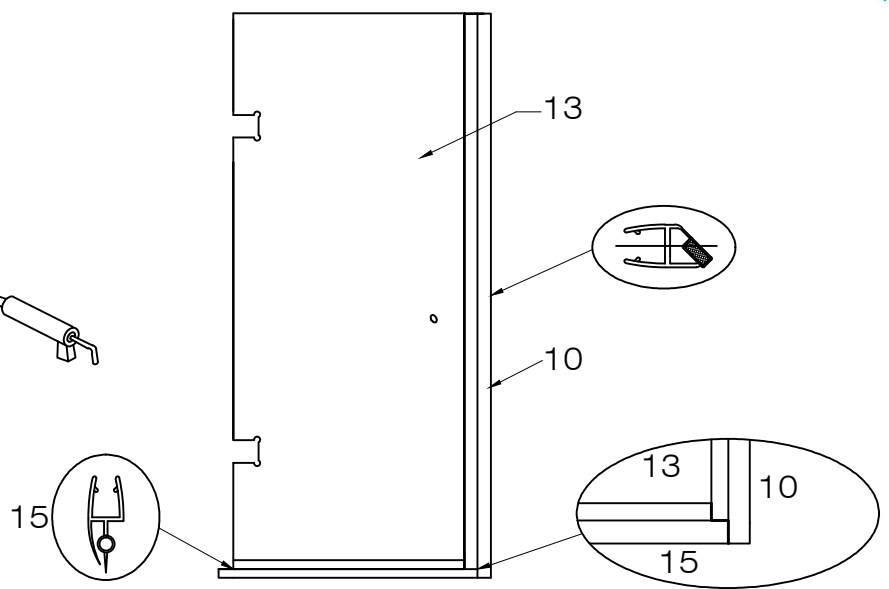

FIG.13A
4. Apply clear silicone caulk to the seal strip connections of the door bottom seal strip and the door magnetic seal strip. [SEE FIG.13A]